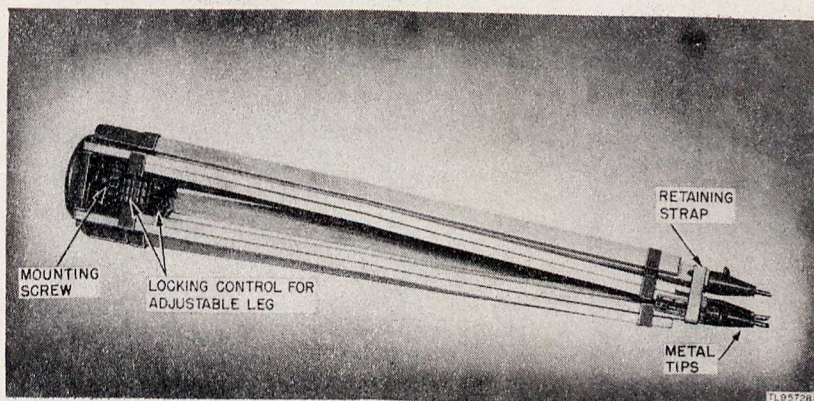

Figure 7. Tripod.
5. TRIPOD AND TRIPOD CASE (fig. 7).
lengths of the legs are 39 and 68 inches respectively. When the legs are extended to the desired length they may be locked in position by knurled knobs on each leg. The top of the tripod consists of a flat metal plate through which a mounting screw protrudes for fastening the optical unit to the tripod (fig. 7).